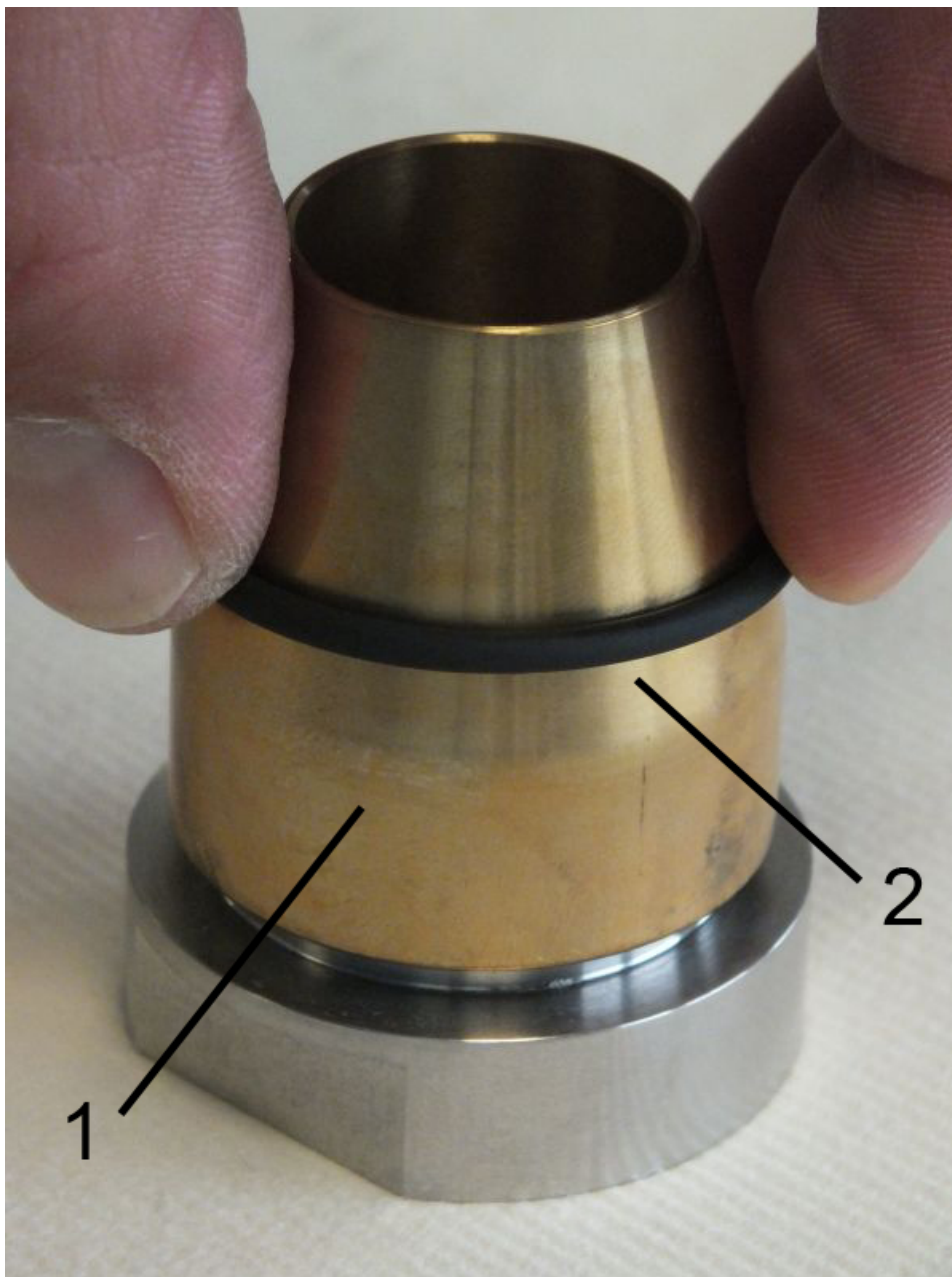
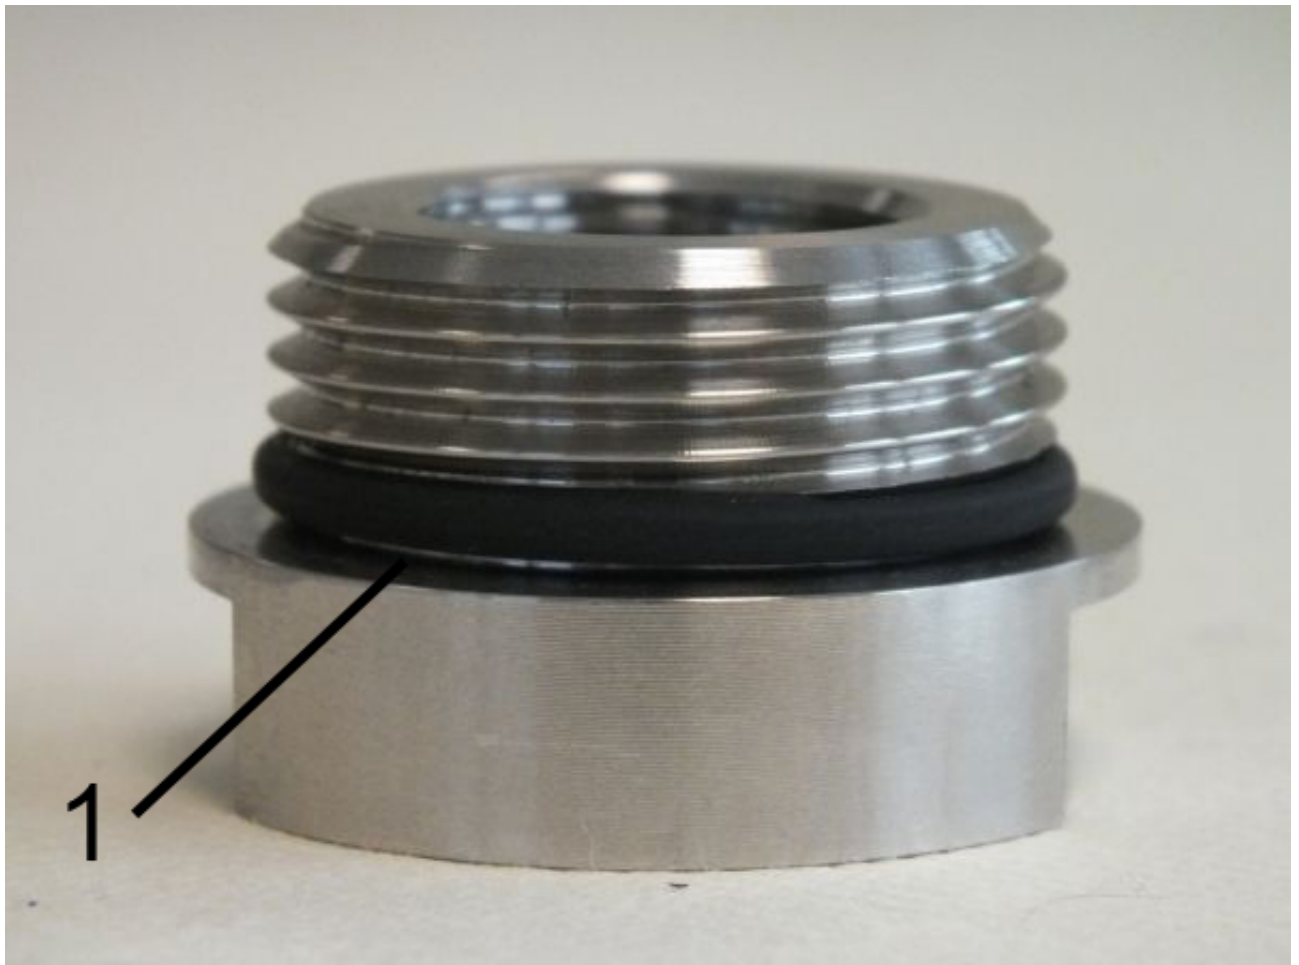

Fig. 48: O-ring (seal)
Fig. 49: Properly positioned O-ring
- 1.** ➤ Carefully install the O-rings (*Fig. 48/2*) with the aid of the O-ring installation tool (*Fig. 48/1*) onto the process connections (inlet and outlet), so that they are properly seated in the O-ring grooves of the process connection. (*Fig. 49/1*). When doing so, be careful not to overstretch the O-rings.
- 2.** → Position the O-ring properly on the process connection (*Fig. 49/1*)